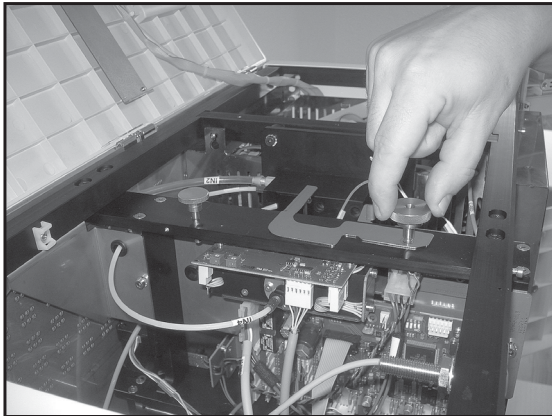

Figure 4: Securing the pipetting probe retainer plate for later re-use
- 3 Open the doors of the device and unscrew the bolt securing the pipetting probe retainer plate (See Figure 3). Open the top cover of the device and screw the bolt into the device chassis crossbeam (it is the screw on the left in Figure 4). Save the retainer plate.
7 Secure the pipetting probe retainer plate you removed in step 3 to the top crossbeam of the device chassis (see Figure 4) and complete the steps in 1.4.2.